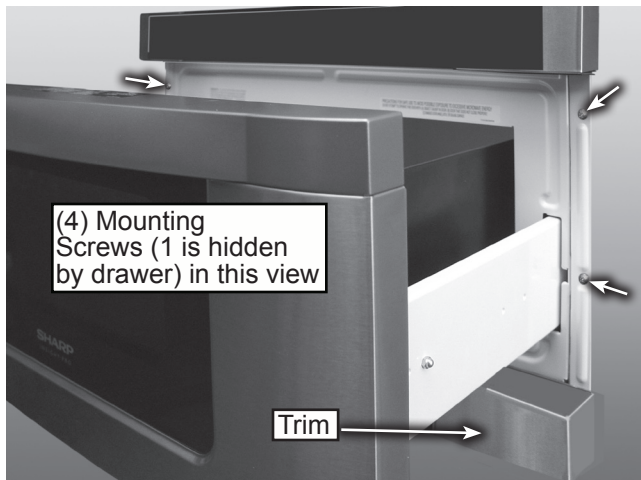

Figure 1
2. Before removing Microwave Drawer, take measures to protect the Drawer trim by either removing the trim or by letting the trim over hang off flat protected surface (see figure 1).
3. Open the Drawer to access the 4 mounting screws holding the unit on to the wall or cabinet opening, see figure 1.